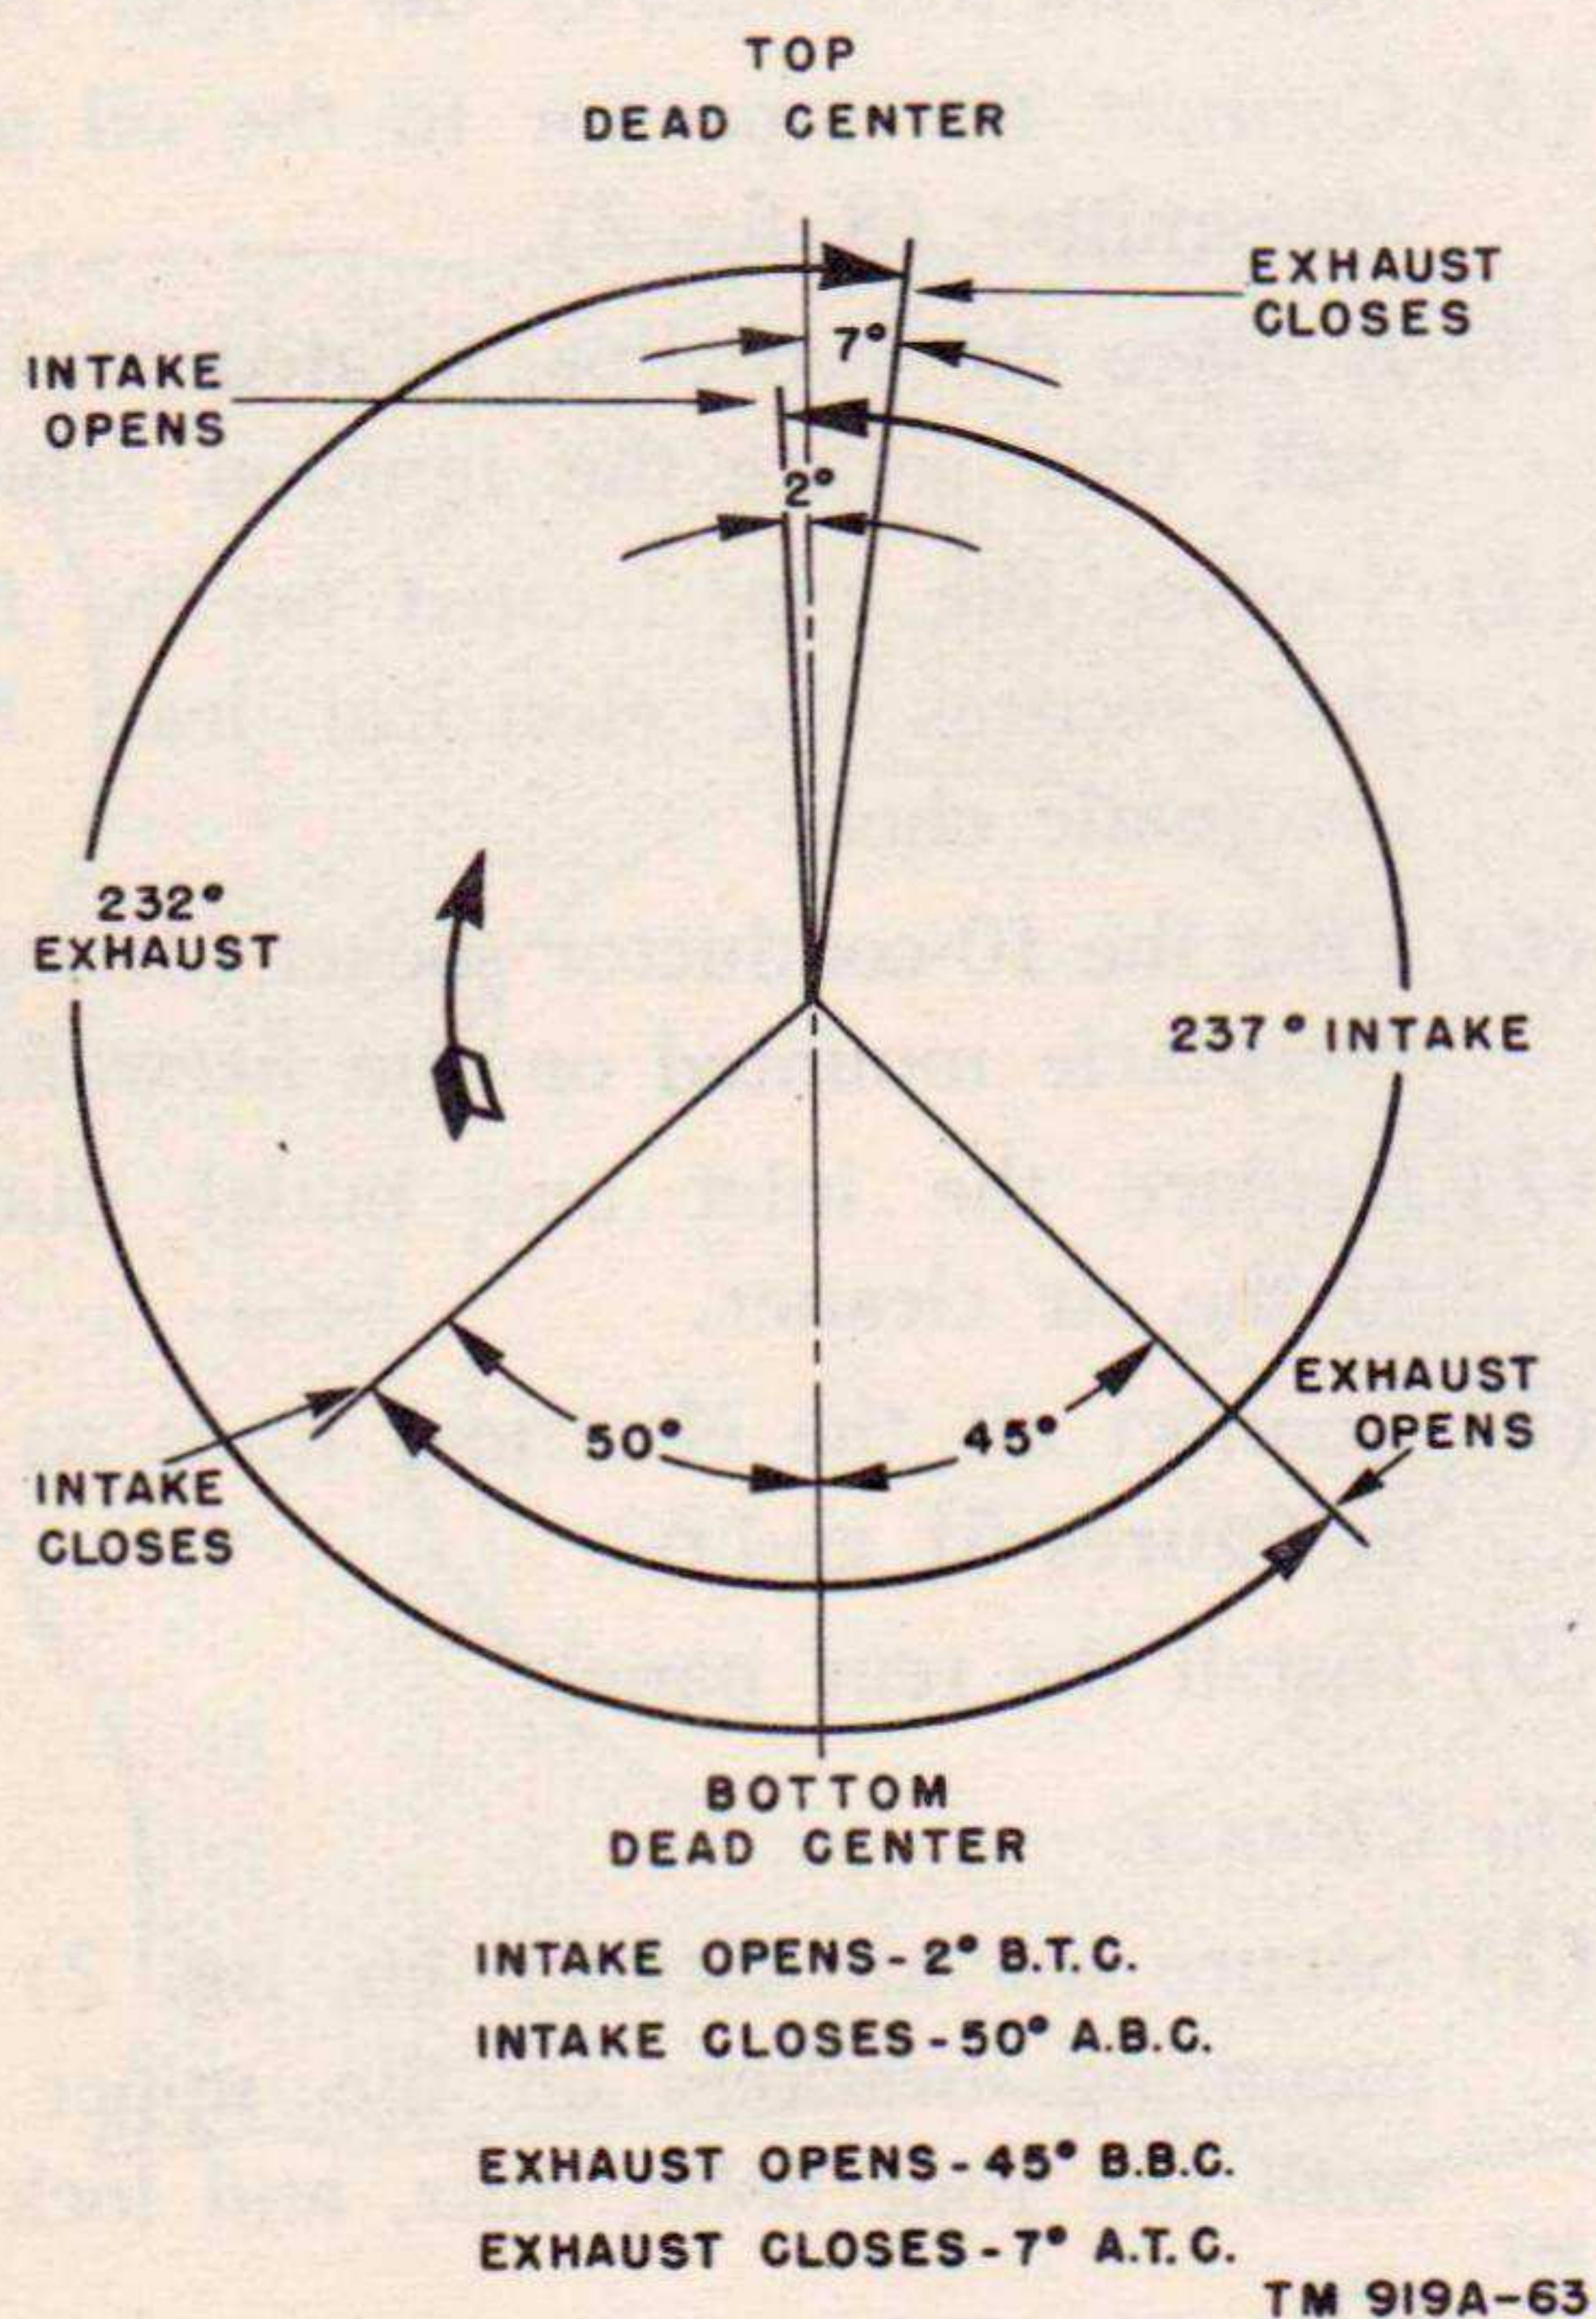

Figure 64. Valve timing.
*b. Valve Timing.* With the valves timed as instructed in paragraph 61d(4), check the timing as follows. Carefully adjust the inlet valve tappet for No. 1 cylinder to .018 inch. Rotate the crankshaft clockwise until the piston in the No. 1 cylinder is ready for the intake stroke. The intake opens  $2^\circ$  before top dead center as shown in figure 64. The  $2^\circ$  mark is the second mark ahead of the DC mark. With the crankshaft in this position, timing is correct if the tappet is just tight against the valve stem. Readjust the tappet to the running clearance of .014 inch.